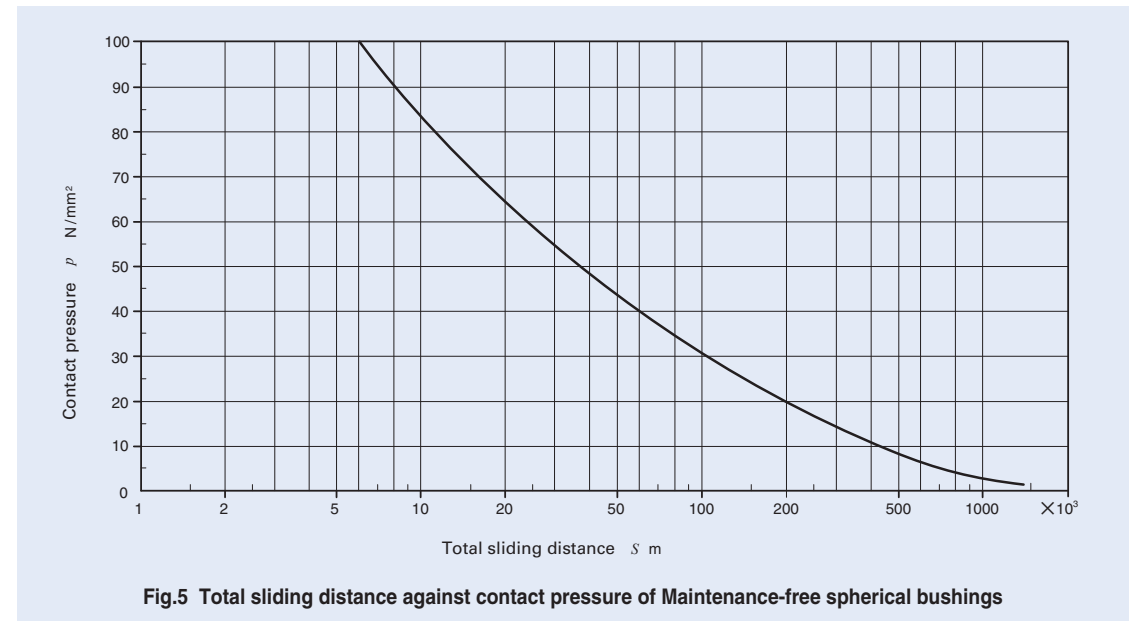

Fig.5 Total sliding distance against contact pressure of Maintenance-free spherical bushings
The life of maintenance-free spherical bushings is obtained from the total sliding distance  $S$  which is given in Fig.5 for the contact pressure  $p$  obtained from equation (3).
- $S$  : Total sliding distance m (Refer to Fig.5.)